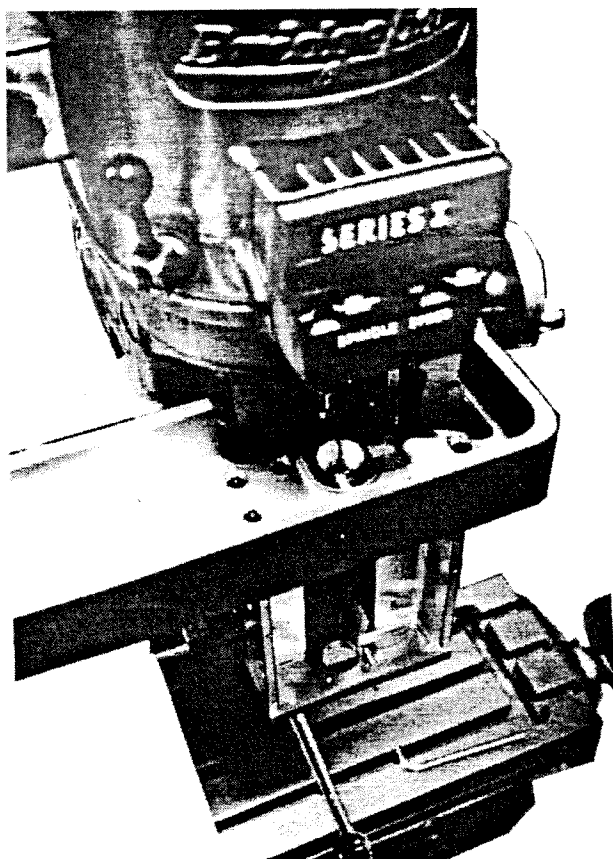
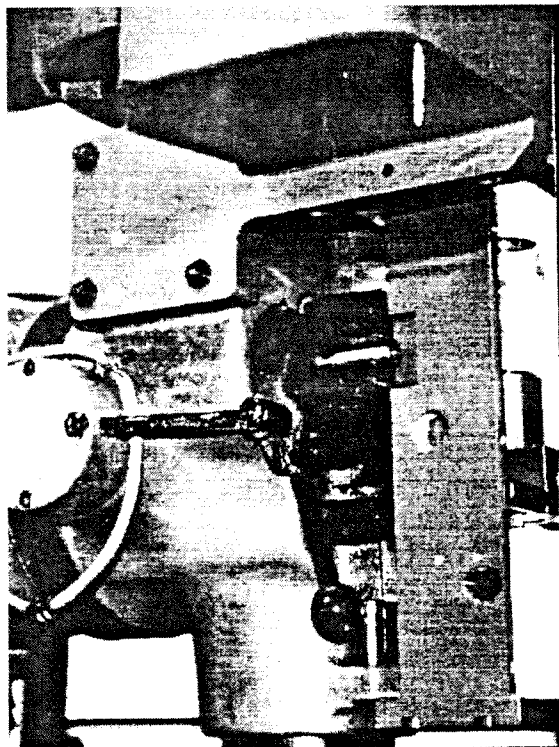

Figure 7
Figure 8
28. Place the right mount angle inside the top housing on the machined surface and attach to the front of the feed disengage lever boss, then fasten the base of the angle to the floor of the top housing. **See Figure 7.**
30. Carefully remove the mount and tighten the (6) 10-32 x 1" SHCS securely.
31. Place the feed disengage mount back in place and fasten it to the front of the flange using the (2) 10-24 x 1 1/4" SHCS and (2) hard washers supplied.
32. Fasten the base of the flange to the top housing using the (2) 10-32 x 1" SHCS and (2) hard washers supplied.
34. Place the left side brace over the open cavity where the transmission feed cover was removed. **See Figure 8**